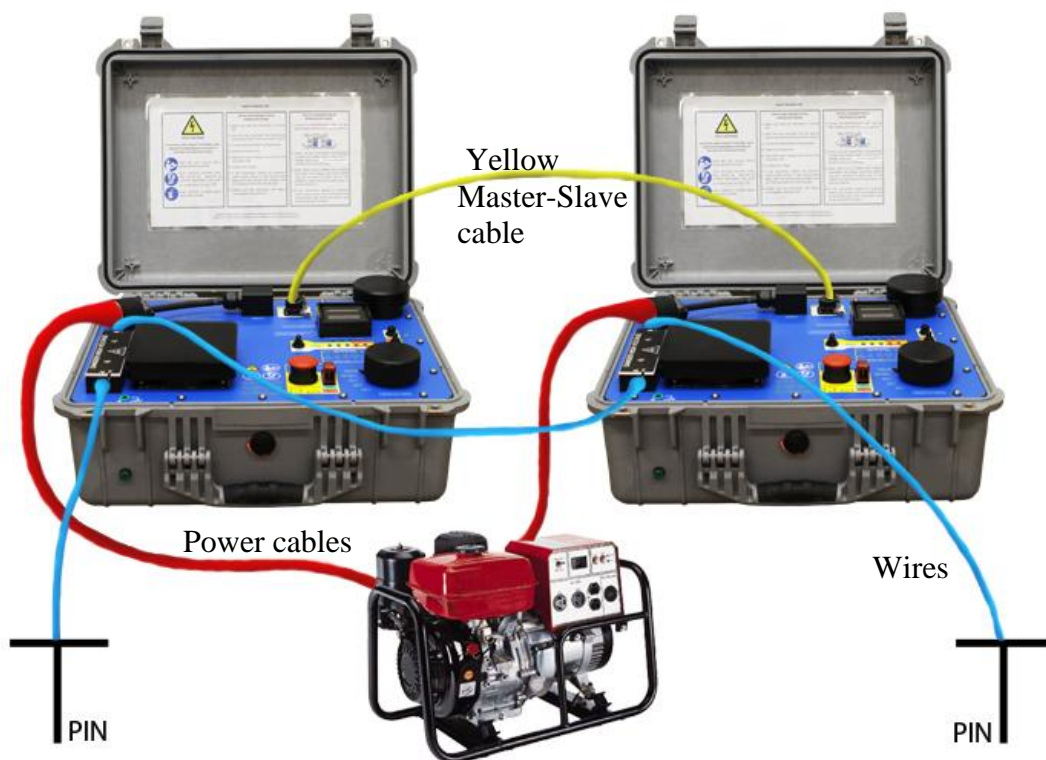

Figure 2 : Master/Slave System Diagram
1. Connect the yellow synchronization cable (Master/Slave) to the transmitters. The Master/Slave cable terminations are different: one is labeled *MASTER* and the other one *SLAVE*. The transmitter is *MASTER* or *SLAVE* according to the termination of the cable connected on its interface. The *MASTER* and *SLAVE* LEDs indicate the mode of each transmitter. (see figure 2, yellow line)
2. Connect an insulated wire between the terminal (A) of one transmitter and the terminal (B) of the other one. (see figure 2, blue line)
3. Connect the two power cables from the transmitters to the generator. (see figure 2, red lines)
4. Drive the electrodes into the ground and connect them to the unused terminals (A) and (B) by using insulated wires. (see figure 2, blue lines)